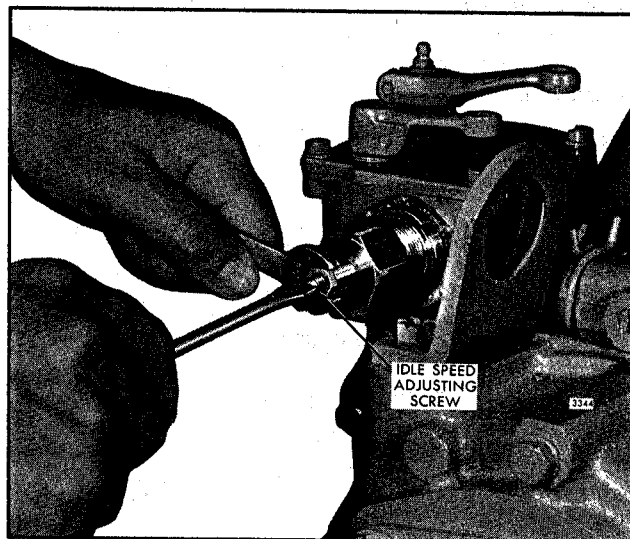
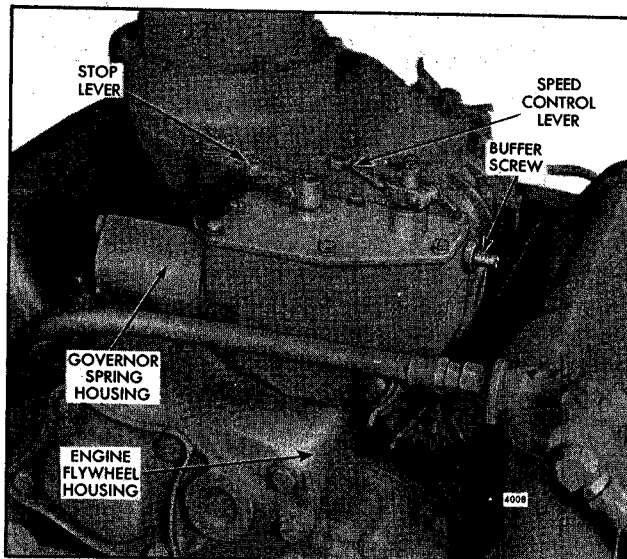

Fig. 5 - Adjusting Engine Idle Speed
Fig. 1 - Limiting Speed Governor Mounting
4. Start the engine and adjust the idle speed screw to obtain an idle speed of 500-600 rpm (Fig. 5).
1. With the engine running at normal operating temperature and with the buffer screw backed out to avoid contact with the differential lever, turn the idle speed adjusting screw (Fig. 5) until the engine idles at
The limiting speed mechanical governor assembly is mounted at the rear of the engine, between the flywheel housing and the blower (Fig. 1). The governor is driven by the right blower rotor drive gear. The left blower rotor drive gear is driven by a shaft, which passes through the governor housing, from the engine gear train. There are two types of limiting speed governor assemblies. One type is generally used in industrial applications and the other is generally used in vehicles. The only difference between the governors is in the spring mechanism (Fig. 5).